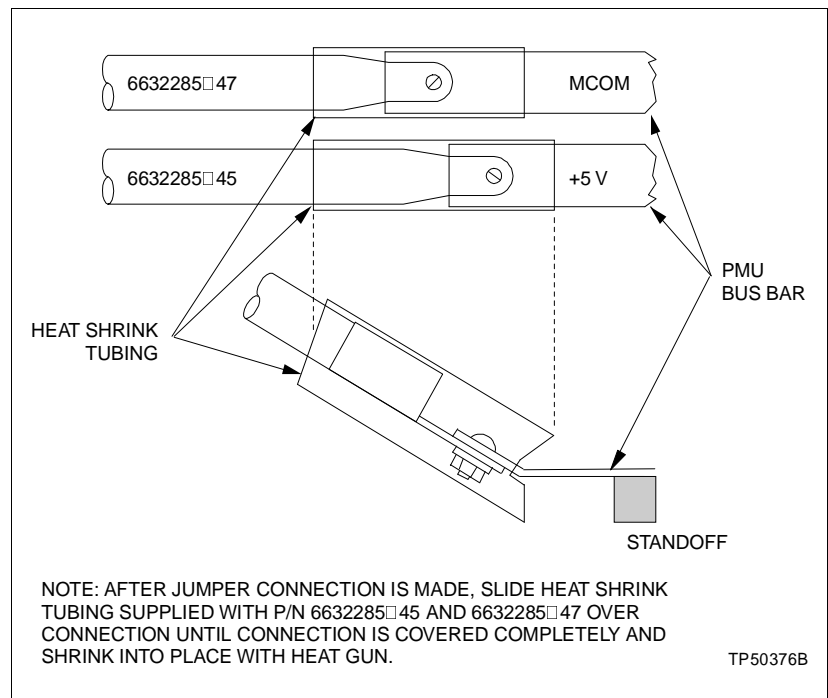

Figure 3-8. Heat Shrink Tubing for 5 VDC Connection
- Slide heat shrink tubing over the PMU card cage connection (see Figure 3-8). After properly covering the connections, use the heat gun to shrink the tubing into place.
- Slide heat shrink tubing over the power mounting unit connection (see Figure 3-8). After properly covering the connections, use the heat gun to shrink the tubing into place.